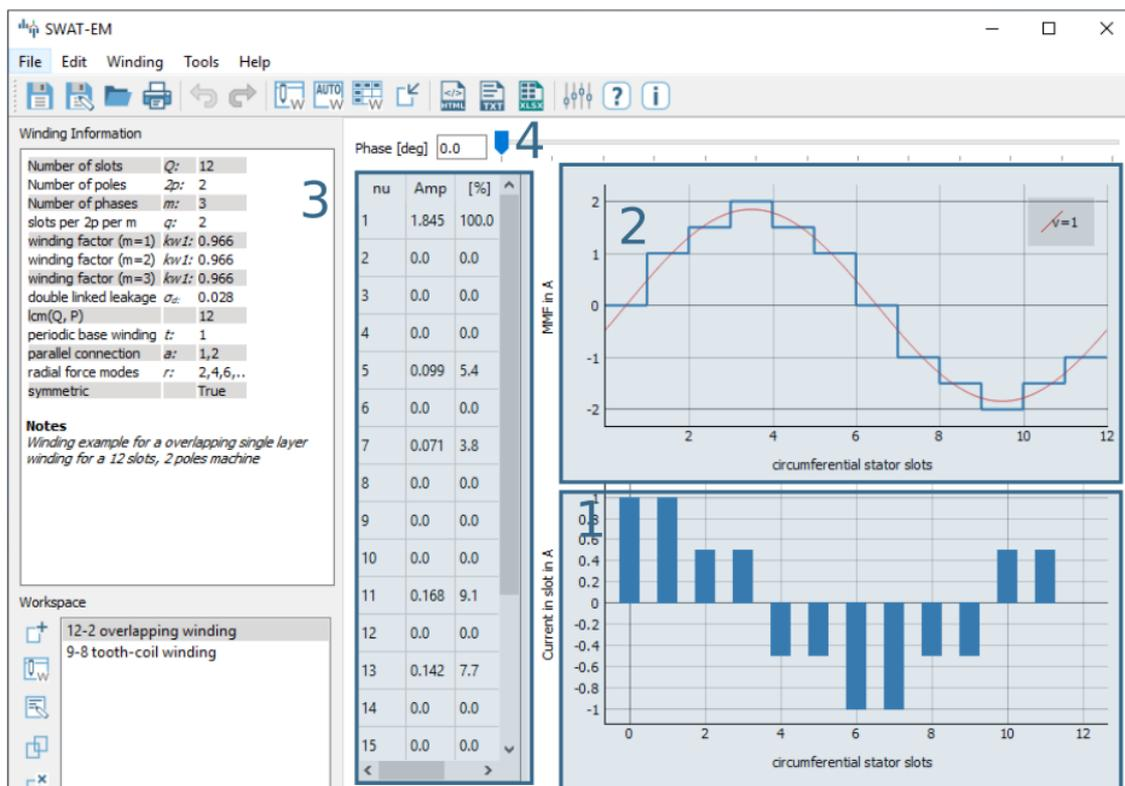

Figure 4.4: Plot of the ampere-conductor distribution and the Magnetomotive force (MMF)
Therefore the distribution of ampere-turns is coupled with number of slots. (1) in Figure 4.4 shows this for a winding example with  $Q = 12$  slots, so there are 12 bars. In reality the distribution has a width per bar which corresponds to the slot opening. However in theory (in this program) the distribution can be interpreted as infinitely thin peaks. The integral of this leads to the MMF
which is shown in (2) in figure 4.4. The waveform of the MMF corresponds to the magnetic field, that is generated in the airgap by the winding. For further information consider the literature (eg [4]). The plot also shows the fundamental and some of the harmonics. The number of harmonics which are plotted can be defined relative to the fundamental. Please consider the "Tools" → "Settings" dialog. The table (3) in the window displays the harmonic analyses of the MMF. With the slider (4) one can define the phase angle of the AC current system for the MMF plot. Note that the phase angle has no effect on the harmonic content of the MMF, so the harmonic analyses is independent from it.